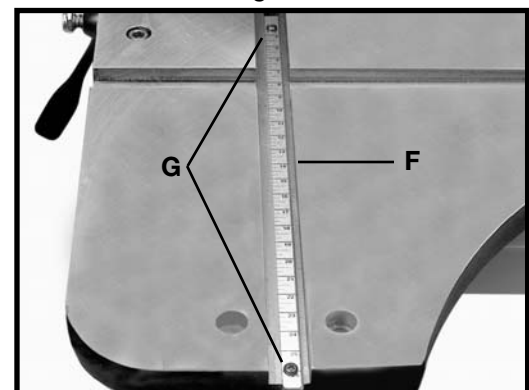

Fig. 40
5. When necessary, adjust the scale (F) Fig. 40 by loosening the two screws (G), adjusting the scale in or out, and tightening the two screws.